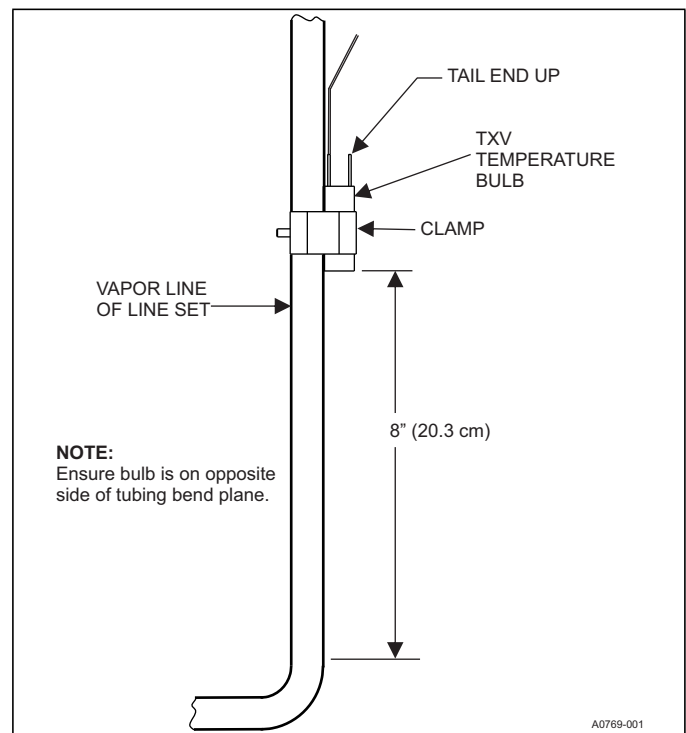

FIGURE 27: Vertical Temperature Bulb Orientation
- b. If bulb installation is made on a vertical run, ensure that the bulb is a minimum of 8 inches (20.3 cm) away from elbow coming out of the coil. Position the bulb with the tail of the bulb at the top, so that the bulb acts as a reservoir. See Figure 27.